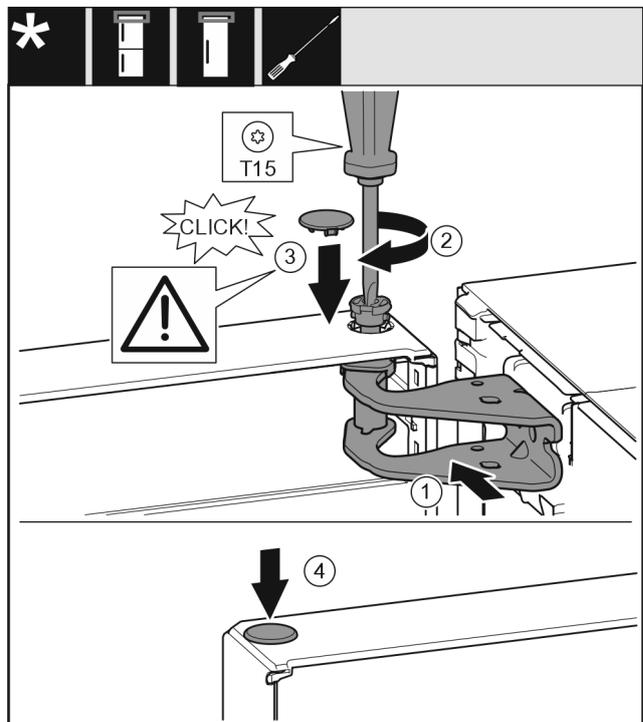

Fig. 17
- Align the top of the door with opening in the bearing bracket. Fig. 17 (1)
- Insert the bolt and tighten with a T15 screwdriver. Fig. 17 (2)
- ▶ Fit the protective cover to protect the door: Insert the protective cover and check that it is flush to the door. If not, insert the bolt fully. *Fig. 17 (3)*
- ▶ Insert the plugs. *Fig. 17 (4)*